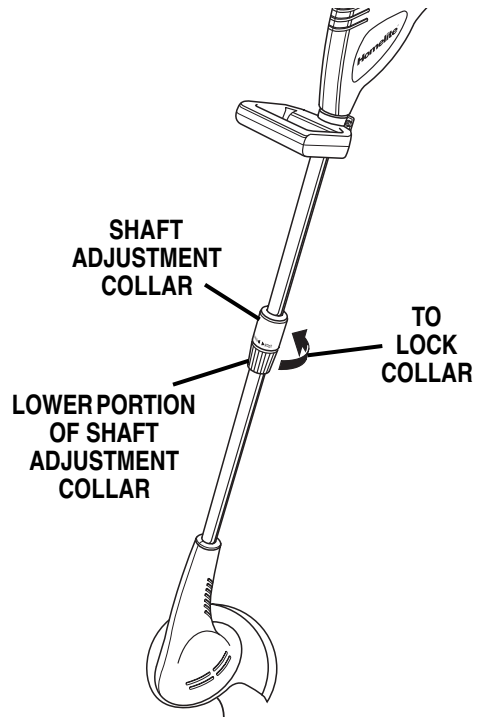

Fig. 5
- Rotate shaft adjustment collar to the "Lock" position and tighten securely. *See Figure 5.*